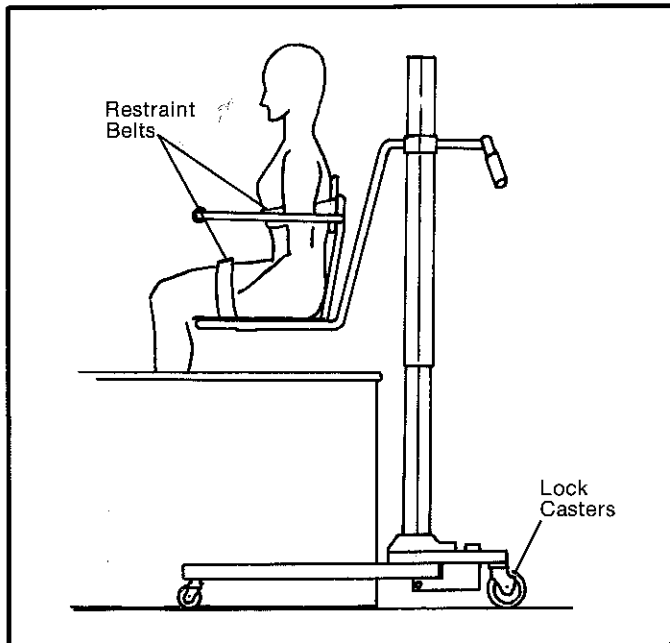

Figure 3-14
8. Press switch "Up" button, raise patient high enough to clear tank, see Figure 3-14. (In some installations it may be necessary to raise the patient or resident's legs.)